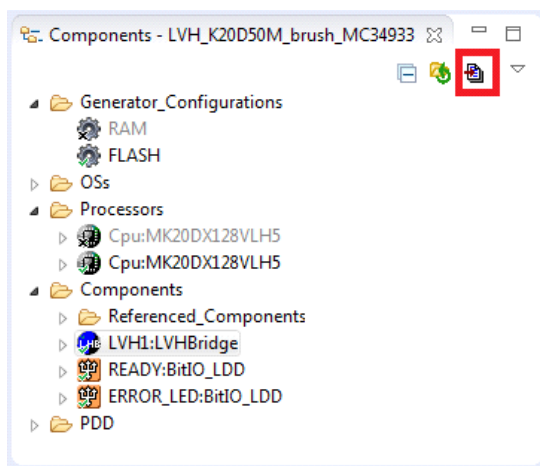

Figure 28. Generating the source code
1. Click on the **Generate Processor Expert Code** icon in the upper right corner of the **Components** panel (see Figure 28).